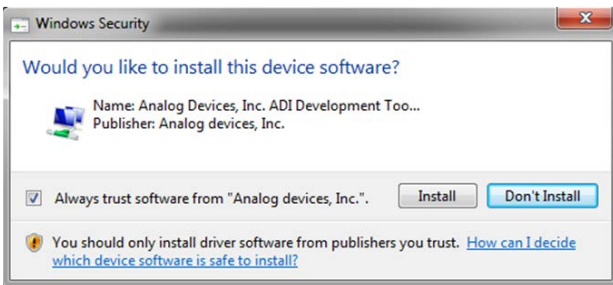

Figure 11. Windows Security Dialog Box
- The **Windows Security** dialog box appears (see Figure 11). Click **Install** to allow the **Windows Security** dialog box to install the SDP-H1 drivers.